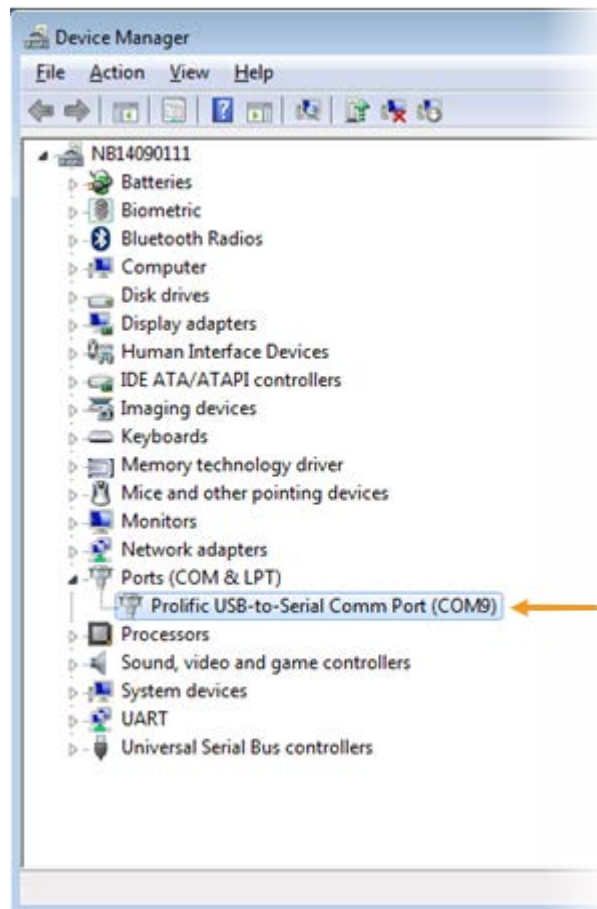

Figure 4. Enumerated COM port on the host
- b) In **Device Manager**, navigate to **Ports (COM & LPT)** (see Figure 4).
- d) A new **COM** device should appear under **Ports (COM & LPT)** in **Device Manager**, as shown in Figure 4. Note the **COMx** port number of the serial communication port, this information is needed to complete configuration of the Tera Term terminal program.